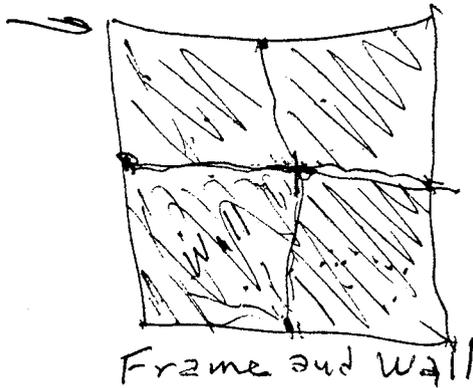

Figure 2
**Degenkolb:** But if you take that same frame and fill it with a concrete or masonry wall, even though these joints are hinged (Figure 2) then you can see that the walls prevent it from squashing.
**Scott:** The shaded area in Figure 2 is filled in with a wall?
walls, masonry, they performed very well (Figure 2).
**Scott:** Now a curtain wall is a kind of wall that doesn't really provide much resistance, not the kind of resistance provided by the wall you're showing in Figure 2?